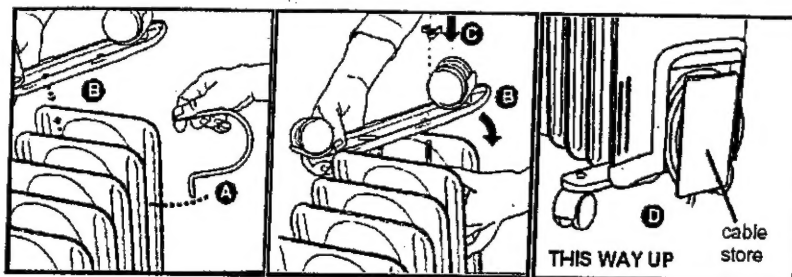

Fig. 2
**IMPORTANT - ENSURE THAT THE CASTORS ARE FITTED TO THE BASE OF THE RADIATOR SO THAT, WHEN IN USE, THE CONTROLS ARE AT THE TOP AND THE CABLE STORAGE AT THE BOTTOM OF THE CONTROL PANEL - see Fig. 2.**
**Warning :** The radiator is heavy - ensure that it is supported to prevent it from toppling. Ask a second person to help with this if necessary. Locate the wire clamps and remove the plastic straps and winged nuts (see Fig. 2 'C' below).
Insert the non-threaded end of the wire clamp 'A' into one of the two holes in the castor plate 'B' as shown in Fig. 2, at the same time tilting the opposite end of the plate slightly. Lower the castor plate and insert the threaded end of the clamp through the fins and over the boss and into the other hole in the castor plate. Place the winged nut 'C' on the thread and tighten it securely.
Lift the radiator clear of the floor, then turn it back upright and stand it on its castors as shown in Fig. 2 'D'. It is now ready for use.